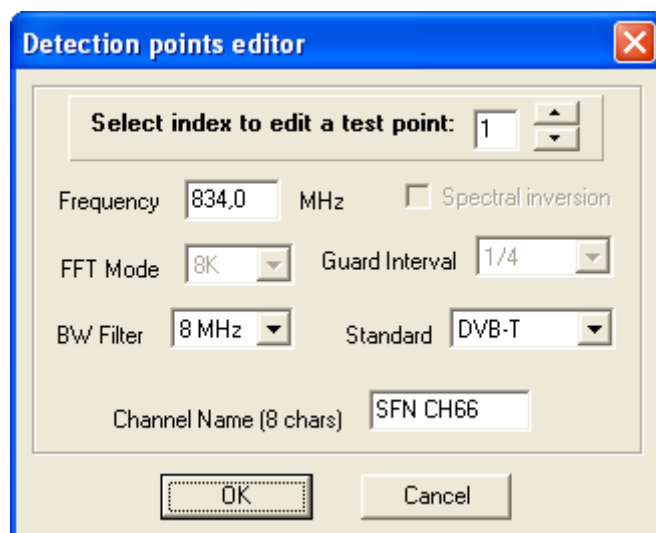

Figure 19. Configuring **Detection Points**.
The **"Detection Points Editor"** window allows you to define each point of detection (Figure 19.).
- **Editor** : This is an option only for using by qualified staff. It opens a text editor that enables you to edit, create, save and print ASCII files (figure 19). This application has the same basic functions than other text editors: Find, Copy, Cut, Paste, etc... Usually, there is no need to use this option, because the program automatically generates configuration files. Even so, in specific instances may be interested do small changes on these files. If you are going to do some changes on a configuration file in text format, be cautious because you can damage the whole file.